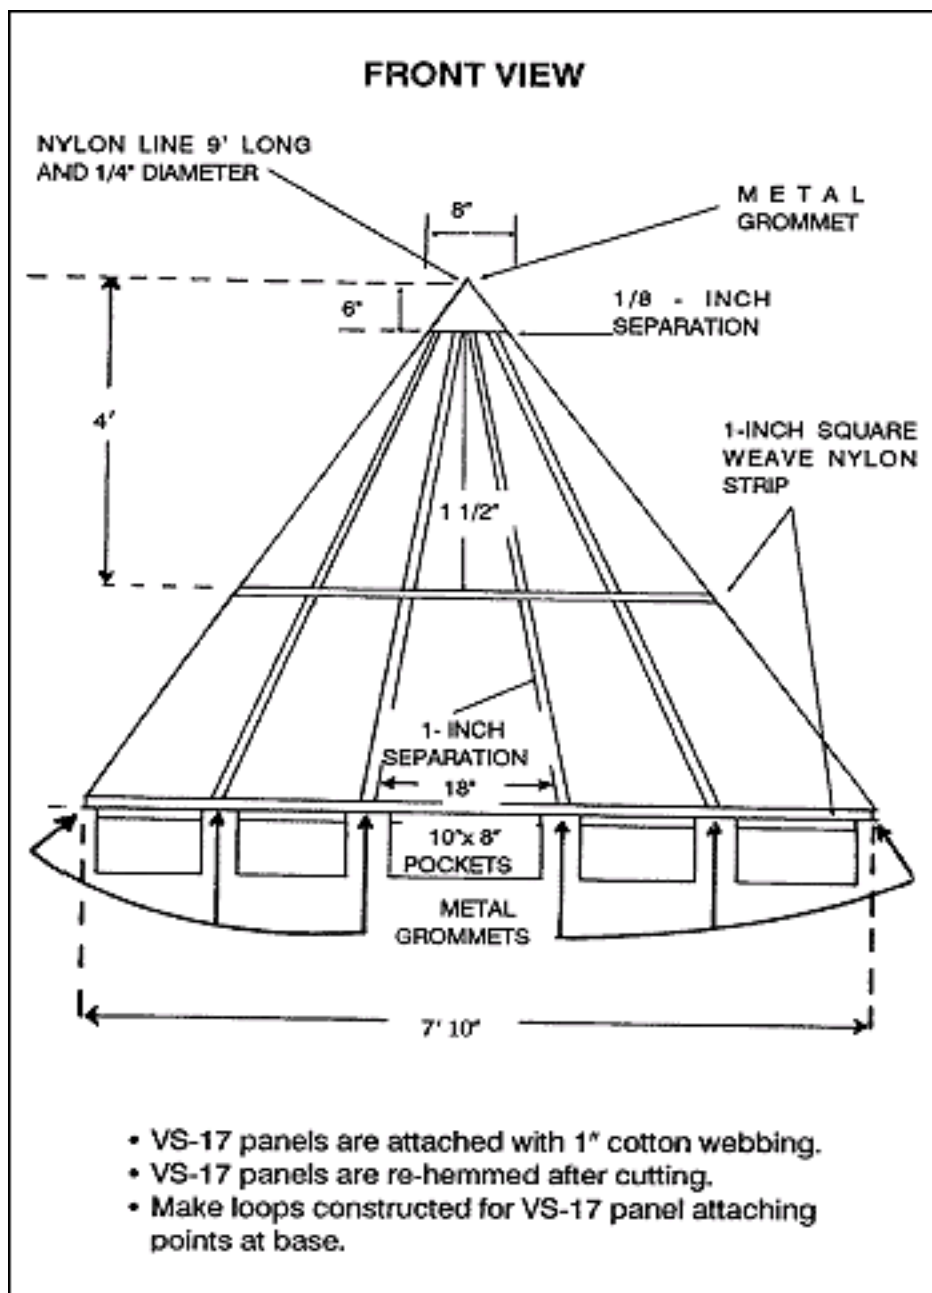

Figure 6-5. Raised-angle marker.
(1) DTG 101000Z Mar 94, Subject: Use of Anemometers During Airdrop Operations.
(2) DTG 212000Z Oct 94, Subject: Use of Turbo Meters During Static Line Airdrop Operations.
d. **Raised-Angle Marker.** This locally constructed RAM marks the PI on CARP DZs. It consists of five VS-17 panels (Figure 6-5).